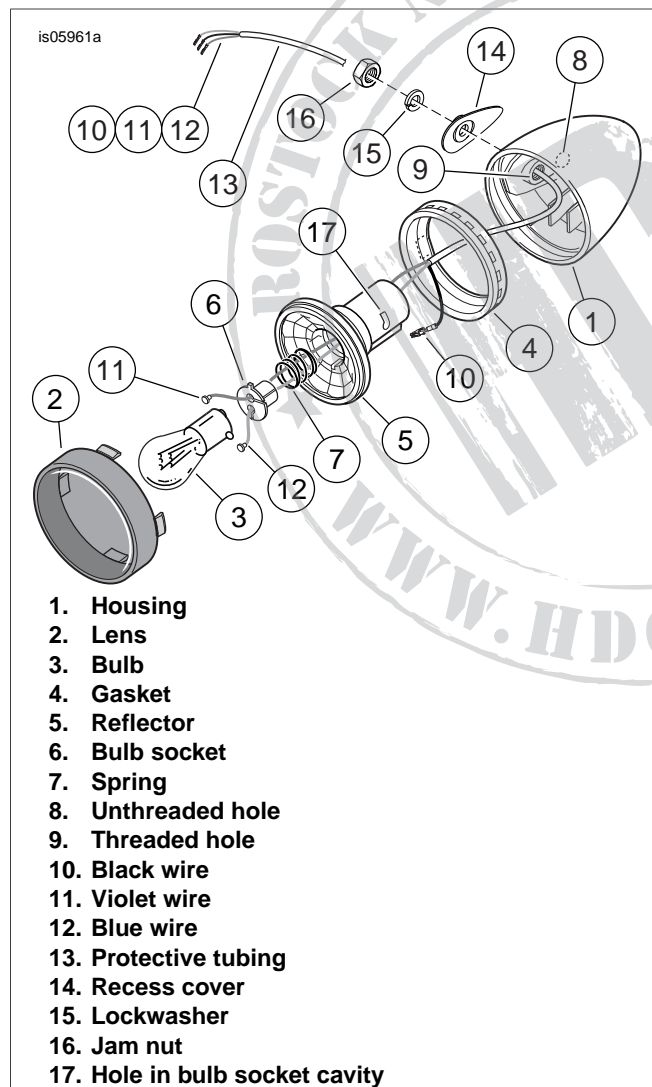

Figure 2. Stop/Tail/Turn Signal Lamp (Right Side Shown)
9. See Figure 2. Insert the blade of a small screwdriver into the slot at the bottom of the lens (2) of the left-side STT lamp, and twist to unsnap the lens from the housing (1).